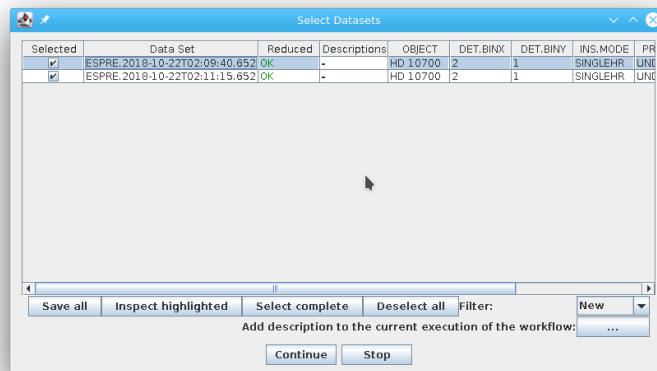

Figure 3.0.3: *The "Select Datasets" pop-up window.*
7. The `Data Set Chooser` actor will be highlighted next and will display a “Select Datasets” window (see Figure 3.0.3) that lists the datasets along with the values of a selection of useful header keywords². The first column consists of a set of tick boxes which allow the user to select the datasets to be processed. By default all complete datasets which have not yet been reduced will be selected. A full description of the options offered by the `Data Set Chooser` will be presented in Section 6.3.2.